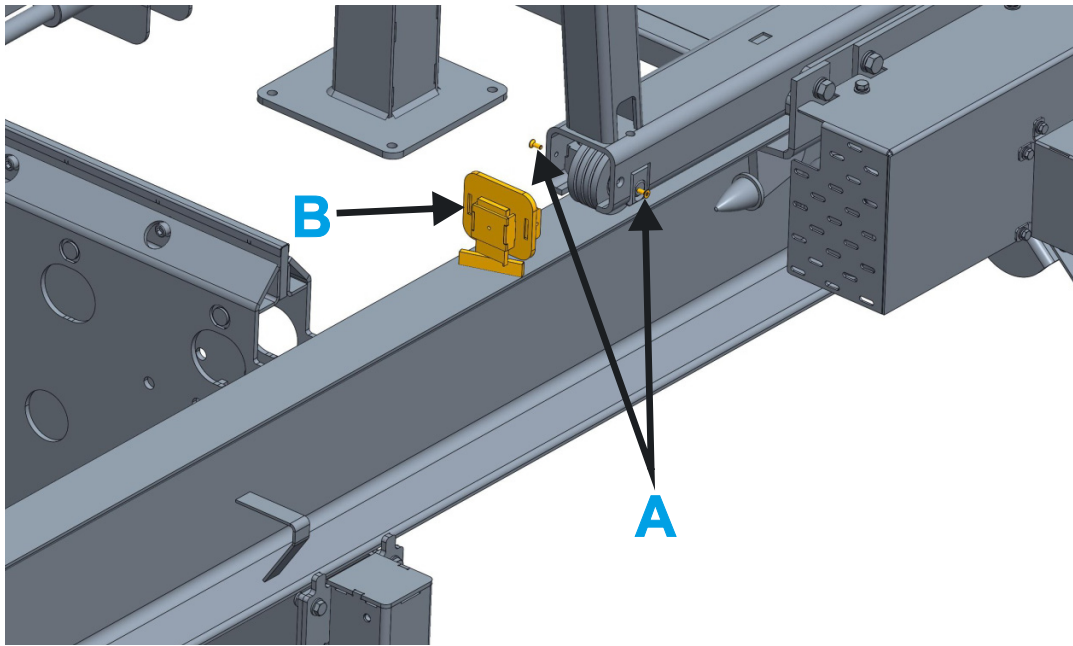

FIG. 5-2
See Figure 5-2 Remove the mounting screws (A) and four scraper brackets (B).